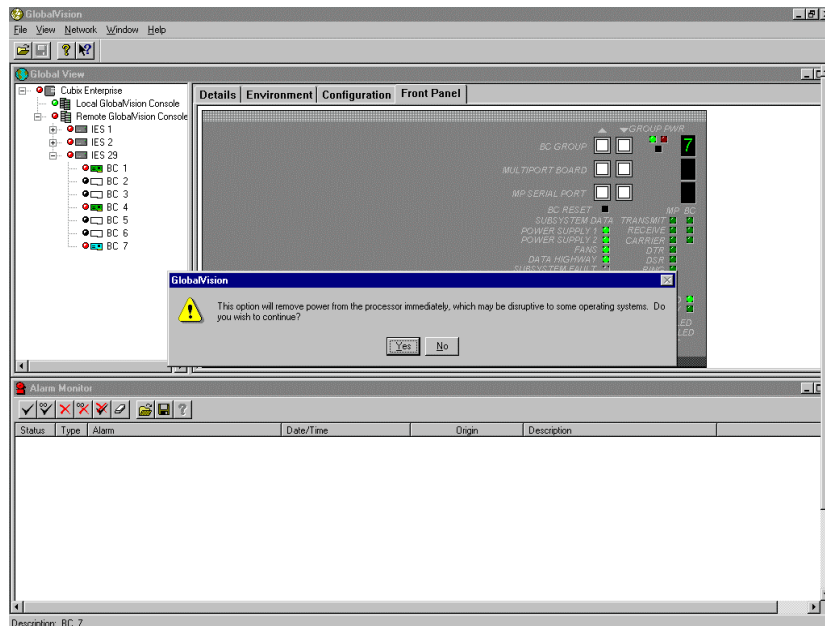

Figure 126 - Power Down Confirmation message box
3. The POWER DOWN CONFIRMATION message box should appear. **THIS IS THE ONLY WARNING BEFORE THE SELECTED GROUP IS POWERED DOWN.** Click on **YES** to power down the group. See Figure 126.